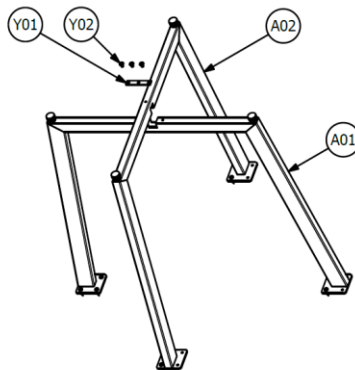

FIGURE 01: X-BASE ASSEMBLY
1. Insert Leg w\ Bottom Notch (A01) into Leg W\ Top Notch (A02), then using Mending Plate (Y01) and Fastener (Y02) complete the assembly. See Figure 01.